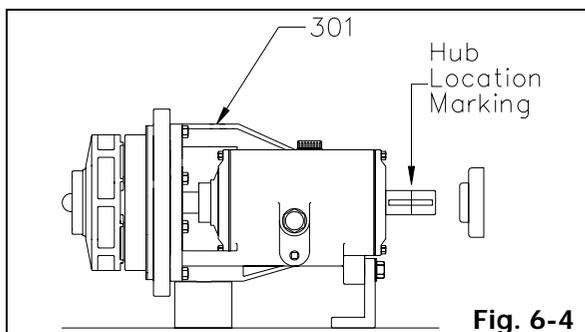

Fig. 6-4
13. Support bearing bracket (301) or frame adaptor (220) securely to workbench. Jack out coupling or pulley (Fig. 6-4).